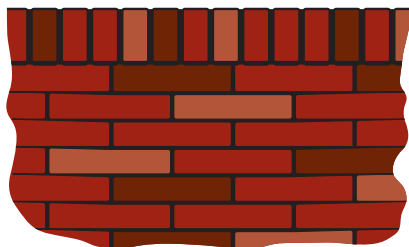

Figure 2
5. **Solid barriers**, which do not have openings, such as a masonry or stone wall, should not contain indentations or protrusions except for normal construction tolerances and tooled masonry joints (figure 2).